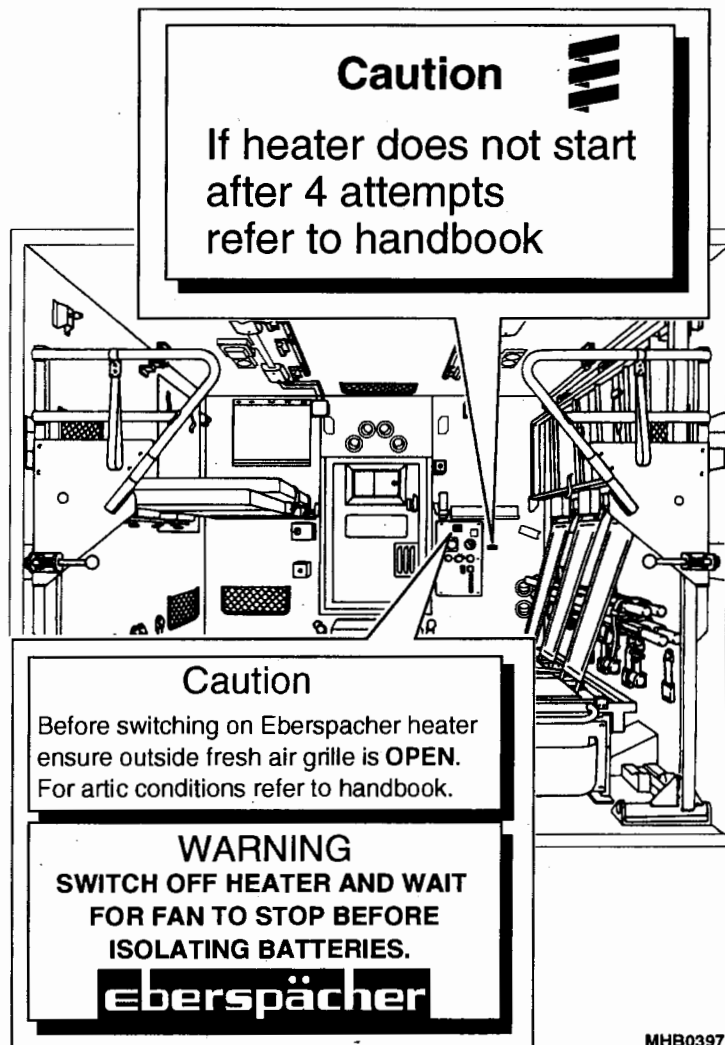

Fig 8 Heater start-up and operation labels
13 The label (Fig 8) is to prevent the heater from being locked out after four (4) attempts (refer to Chap 2-3)